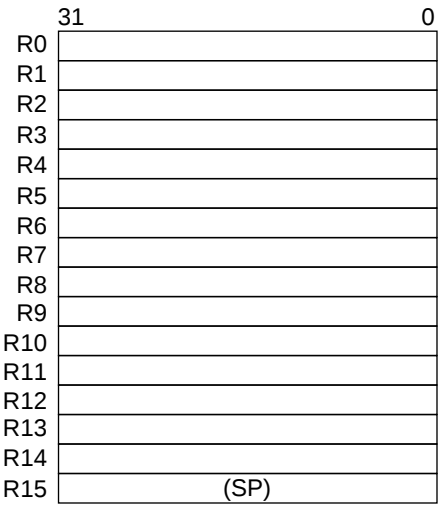

Figure 1.1 General Registers
There are sixteen general registers (Rn), which are 32 bits in length. General registers are used for data processing and address calculation. Several instructions are restricted to the use of general register R0. R15 is used as a hardware stack pointer (SP) during exception processing, so care must be taken when using this register (figure 1.1).